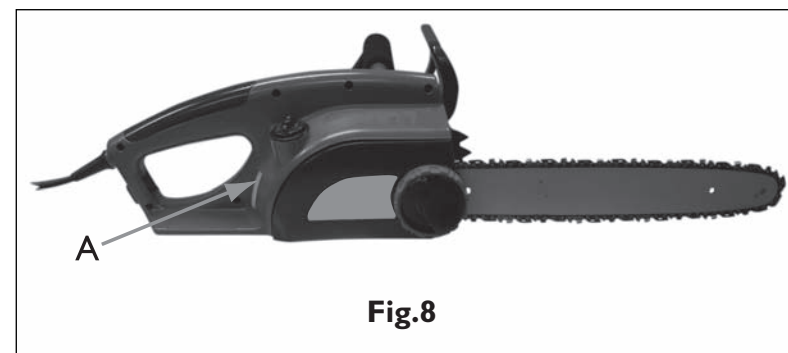

Fig.8
tank level can be checked in the inspection window (A) provided on the right side of the saw. Tank is full when oil is at the top of the slot (Fig. 8).